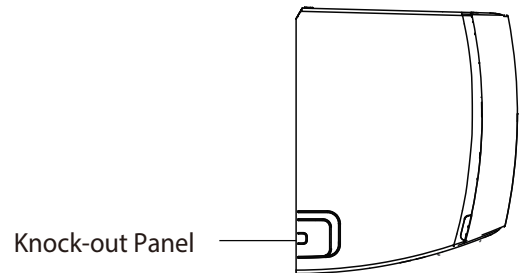

Fig. 14 —Knock-out Panel
2. If the wall hole is behind the unit, keep the knock-out panel in place. If the wall hole is to the side of the indoor unit, remove the plastic knock-out panel from that side of the unit (see Fig. 14). This creates a slot through which your piping can exit the unit. Use needle nose pliers if the plastic panel is too difficult to remove by hand.